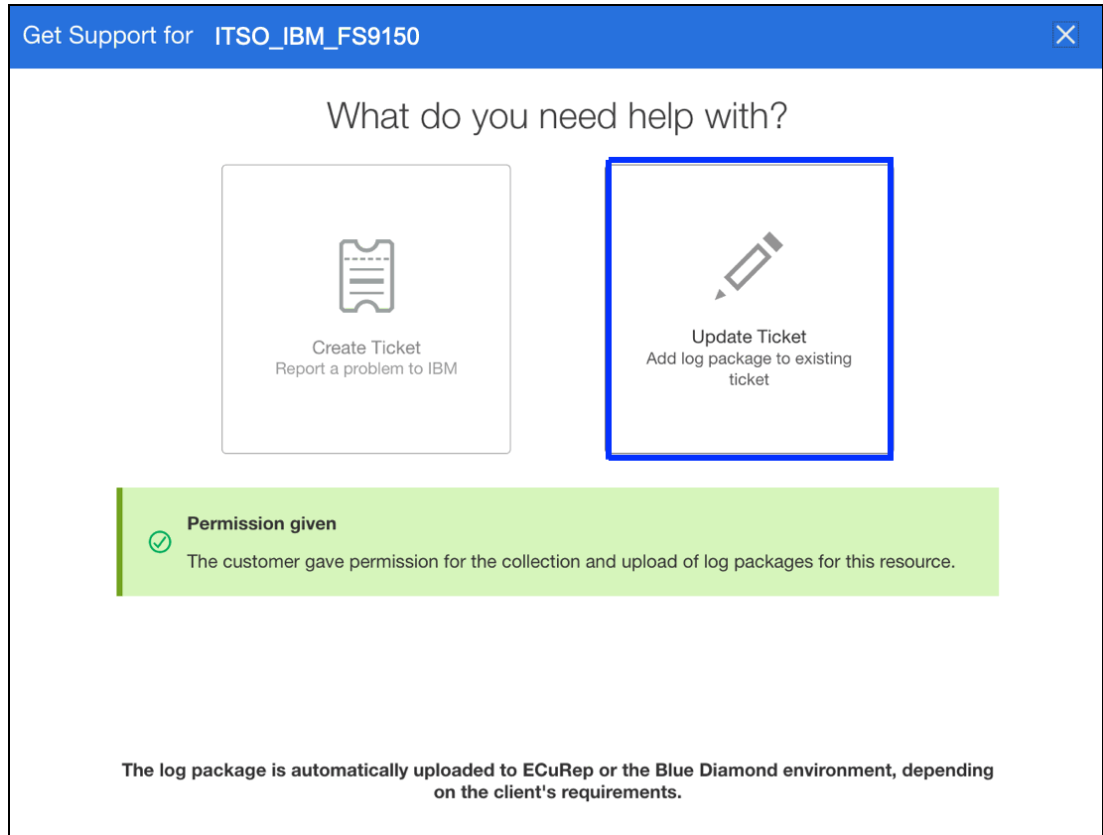

Figure 11-20 SI Update Ticket
2. Select the option to update an existing ticket, as shown in Figure 11-20 on page 521.